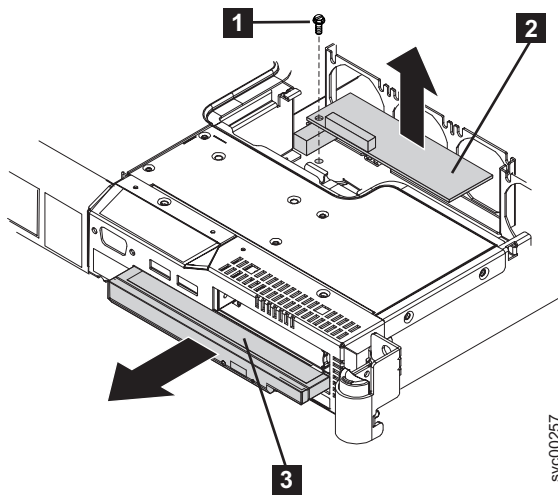

Figure 208. Removing the CD interposer card
4. Remove the CD interposer card (**2** in Figure 208) by unscrewing it, lifting it slightly and then removing the cable from it.